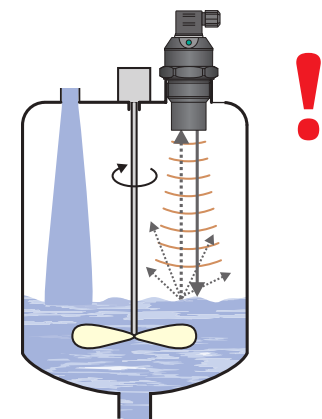

Fig. 10: Moderately stirred surface
- o) The ultrasonic signal can be scattered or attenuated if the surface is moderately stirred or rippled (due to a mixer, inflow of liquid, etc.). This may result in reduction of the measurement range or unreliable operation of the device (Fig. 10).